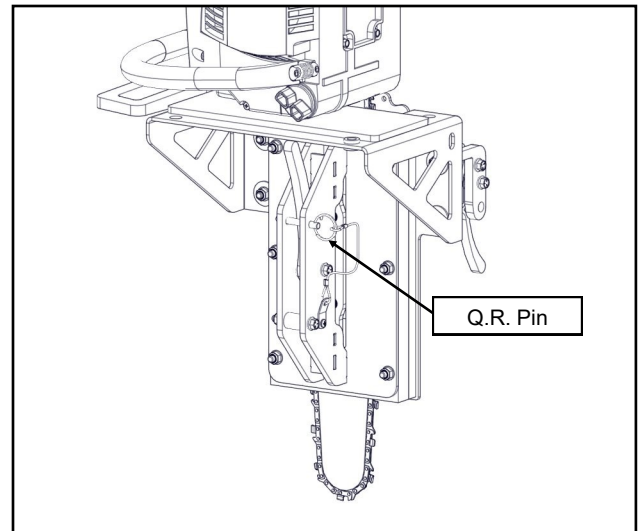

Fig. 7 (installing chainsaw, insert Q.R. Pin)
5. Slide the quick release pin into its mounting holes per fig. 7.